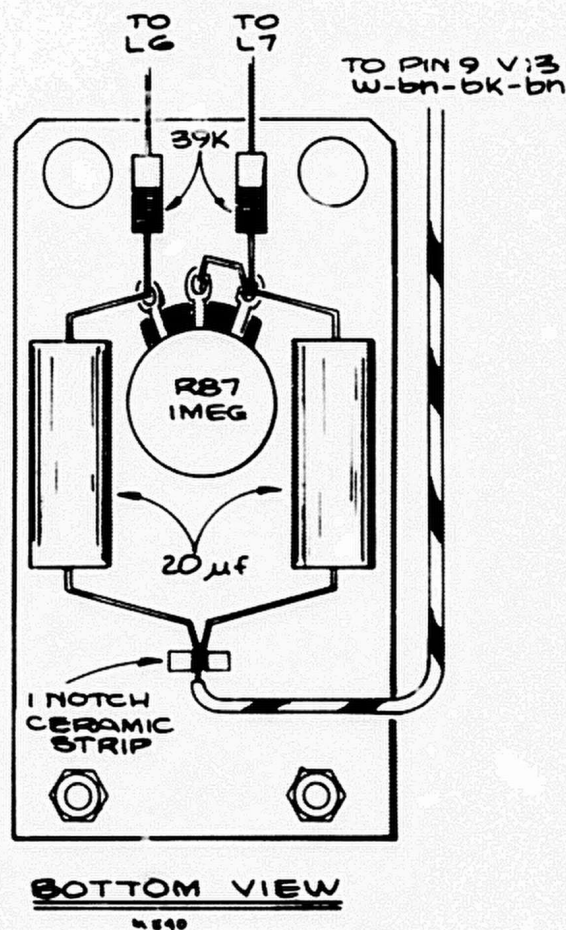

FIG. 1
- Mount and wire parts on mounting plate 386-0323-00 as indicated in Fig. 1.